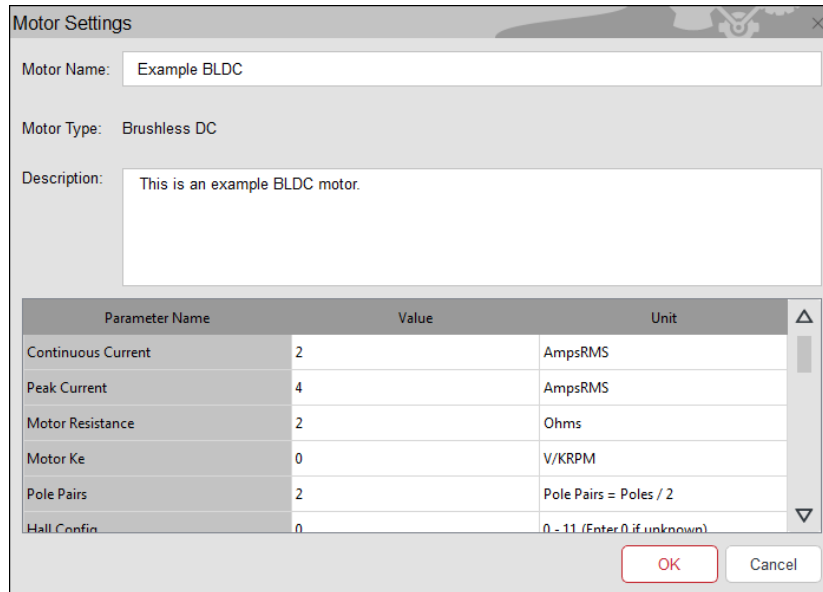

Figure 73: Motor Settings Window
- The Motor settings window will appear in which all motor parameters must be entered before clicking the *OK* button to save. See example window in Figure 73. For unknown parameter values refer to the manufactures data sheet and click *OK*.